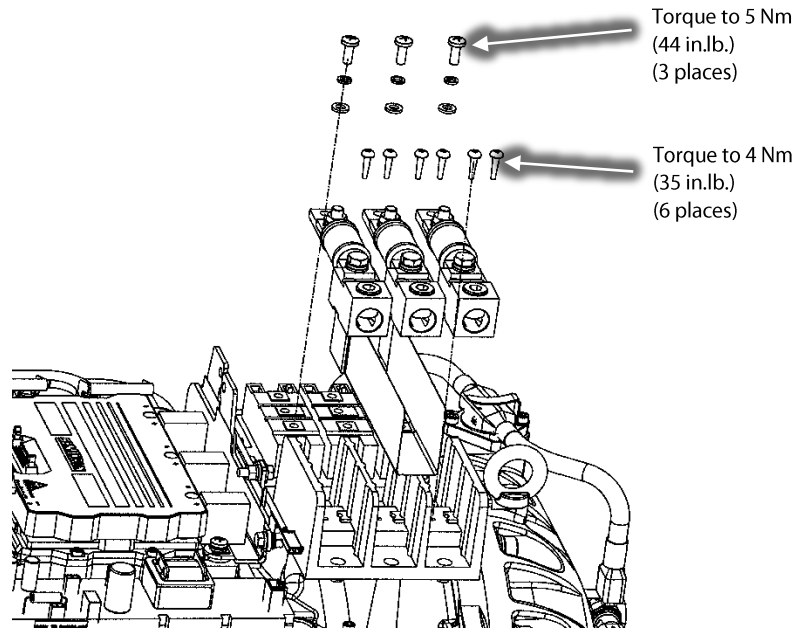

Figure 30 – Fuse Assembly Installation
- Reinstall the three (3) fuse assemblies to the SCRs and the Mains Input Terminal Block. Torque the fasteners of the fuse assemblies to specification. Refer to Figure 30 (Fuse Assembly Installation).